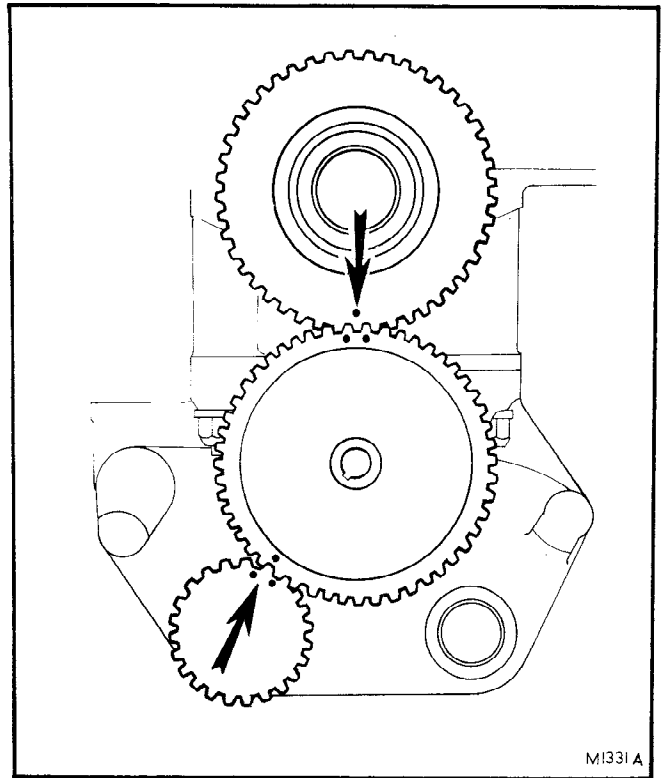

Fig. 3
- f. Ensure that the oil pump gear is correctly aligned to the crankshaft and balancer gears, as shown in Fig. 3.